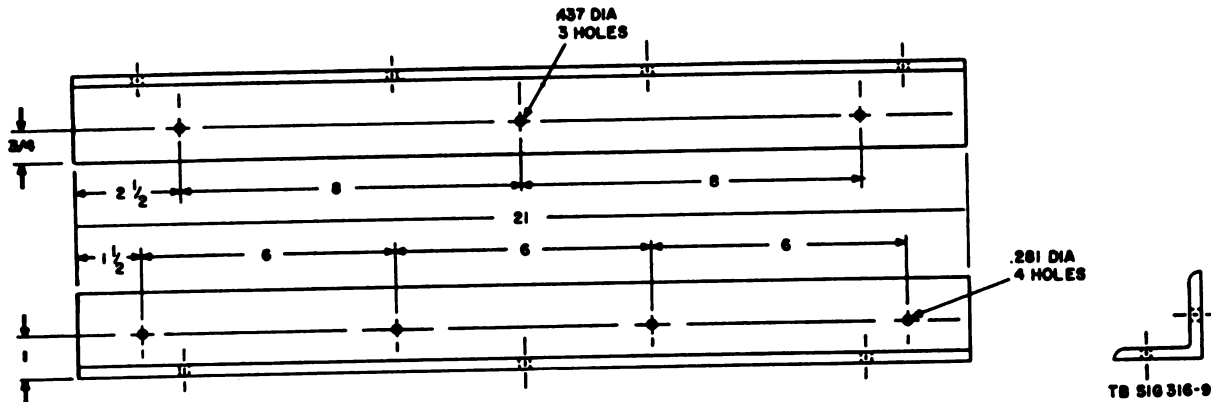

Figure 7. Front angle iron footing.
b. *Material Required* (figs. 7 and 8).